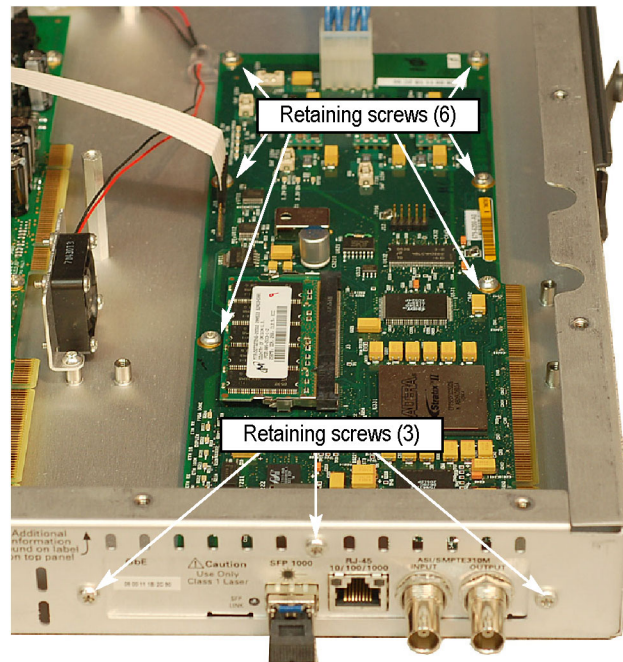

Figure 39: Retaining screw locations for GbE interface card
- c. For GbE interface cards, remove the six retaining screws from the card and remove the three retaining screws from the rear panel. (See Figure 39.)
- c. For GbE interface cards, install the six retaining screws in the card and install the three retaining screws in the rear panel. (See Figure 39.)